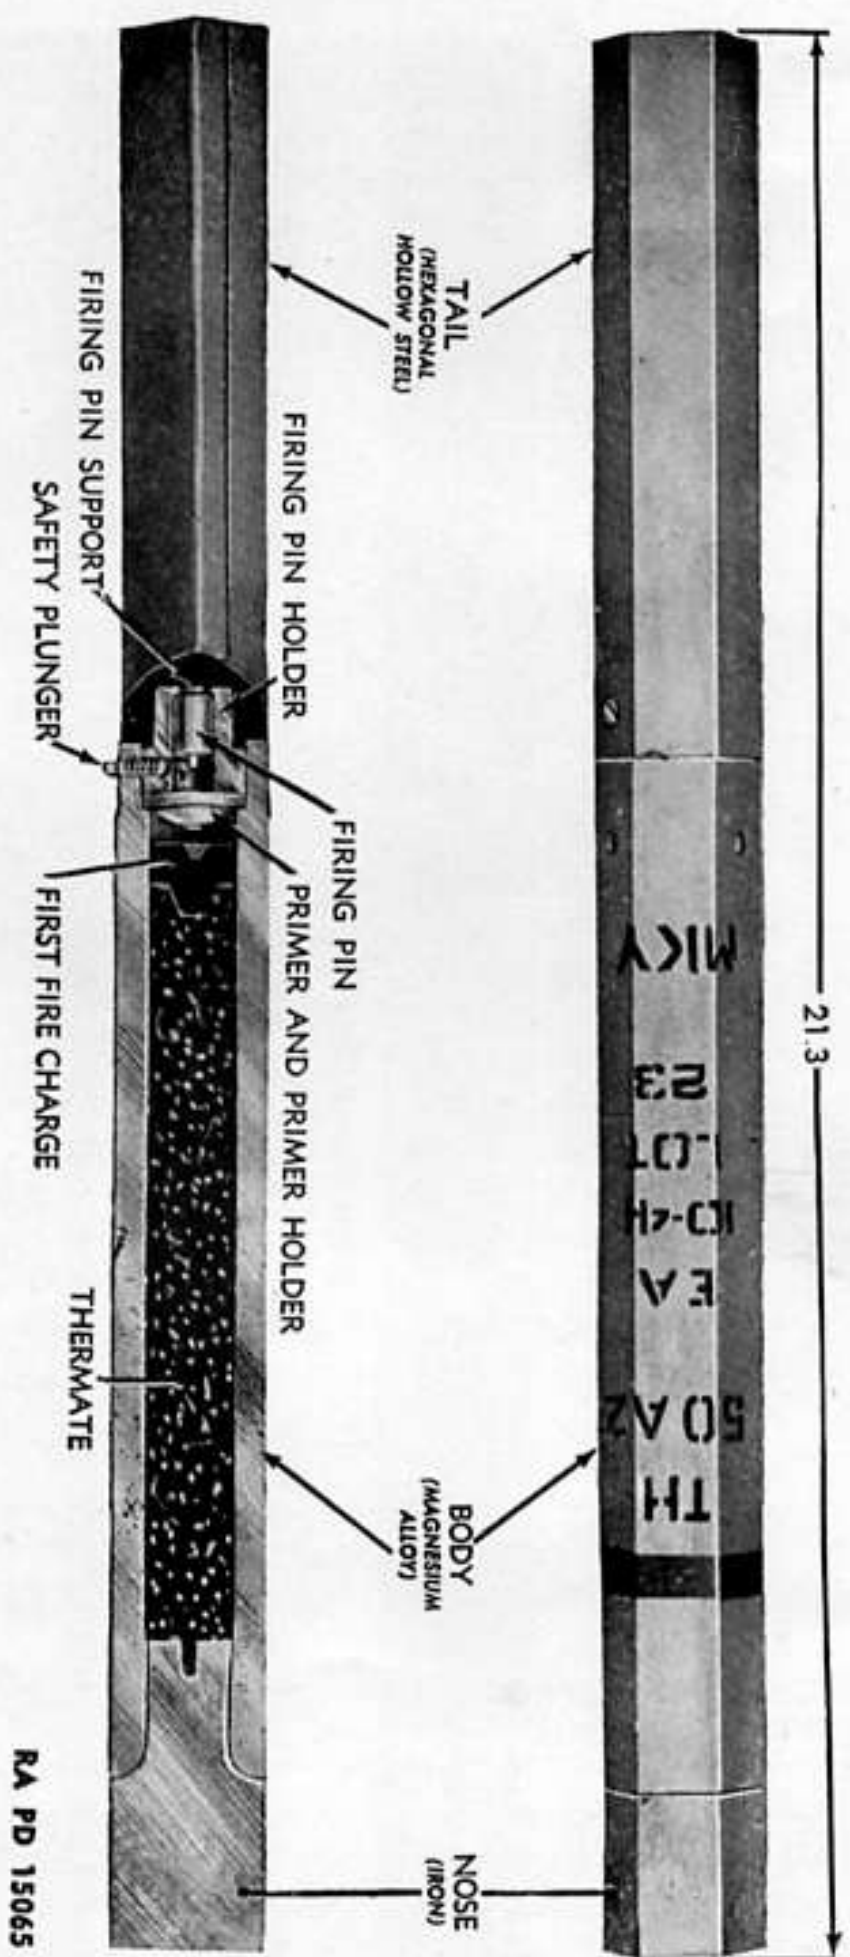

Figure 107. BOMB, incendiary, 4-lb., AN-M50A2.
96. BOMB, INCENDIARY, 4-LB., AN-M50A2, AN-M50XA1, AND AN-M50XA3. **a. AN-M50A2.** BOMB, incendiary, 4-lb., AN-M50A2 (fig. 107), has a hexagonal magnesium alloy body, an iron nose plug, and a sheet metal tail. The bomb is 21.3 inches in over-all length, 1.69 inches across the flats, and weighs 3.7 pounds. The main charge consists of 1.25 pounds of magnesium alloy (the bomb body) and 0.63 pound of thermate. Upon impact the thermate is ignited and burns for approximately 1.5 minutes melting and igniting the magnesium alloy case which burns for from 4 to 6 minutes longer.